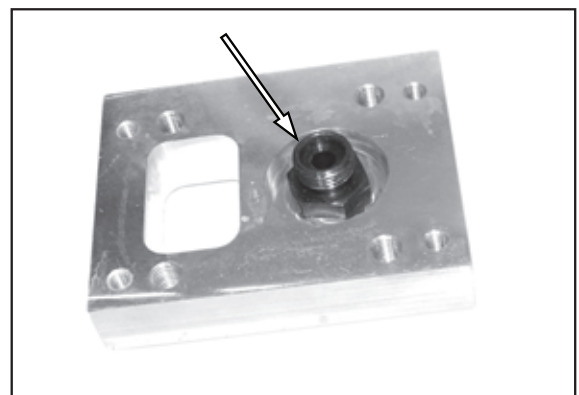

Figure 66.
2. See Figure 66. Remove the connector valve.